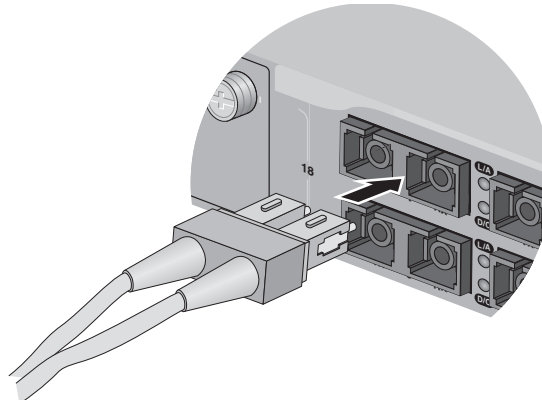

Figure 21. Attaching a Fiber Optic Cable
2. Attach the fiber optic data cables to the fiber optic ports, as shown in Figure 21.